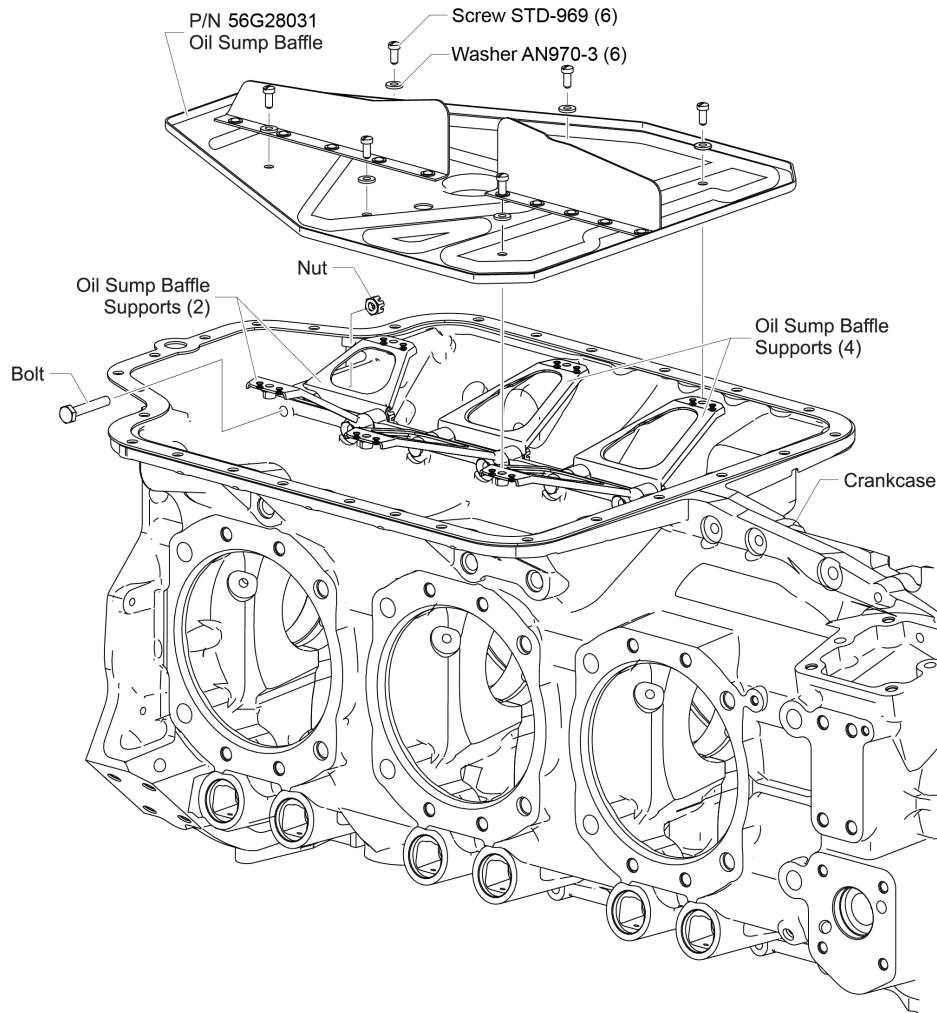

Figure 1
6. Install the new oil sump baffle P/N 56G28031 (Figure 1) with the small end towards the rear of the crankcase and the fin on the baffle towards the oil sump.
5. Remove the bolts, washers and nuts (Figure 1) from the oil sump baffle supports on the oil sump baffle (Figures 1 and 4).